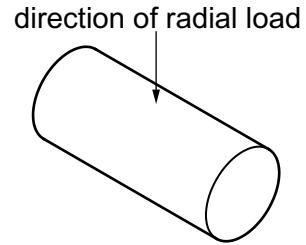

Fig. 10.3
- (b) Fig. 10.3 shows bearings that can be found in a mechanism.